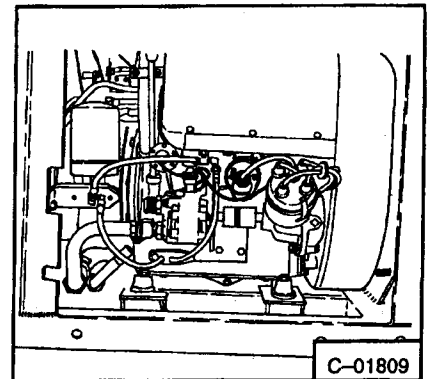

Fig. 4-58 Check Shaft Alignment
6. With brackets fastened and pump fastened in place, check alignment between pump and drive shaft from distributor (Fig. 4-58). Add or remove shims or grind away block on engine with alignment is correct.